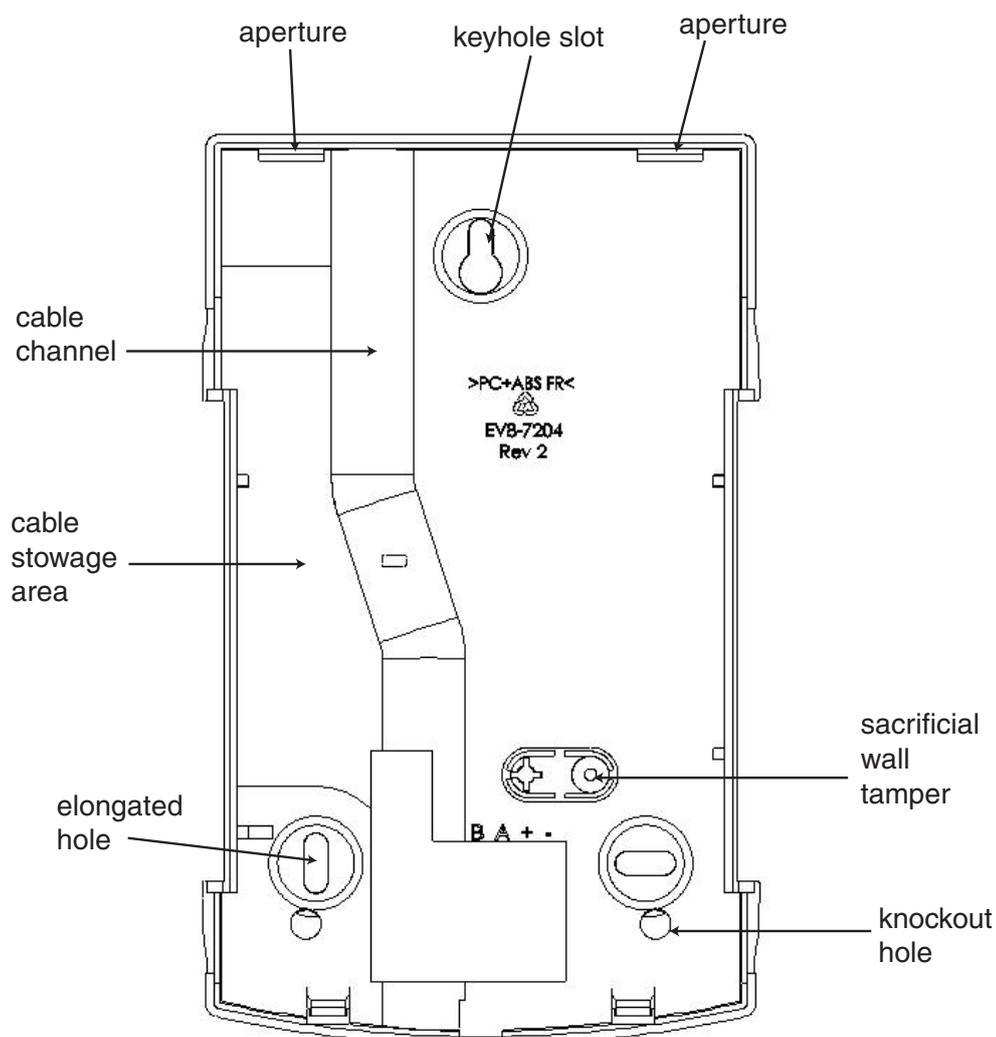

Figure 18. Galaxy Mk7 Keypad Backplate Installation
6. If an off the wall tamper is required, using a No. 6 Pan-head screw, secure the sacrificial wall tamper, indicated in Figure 18, to the wall. Make sure that the tamper knockout is still connected to the backplate moulding.